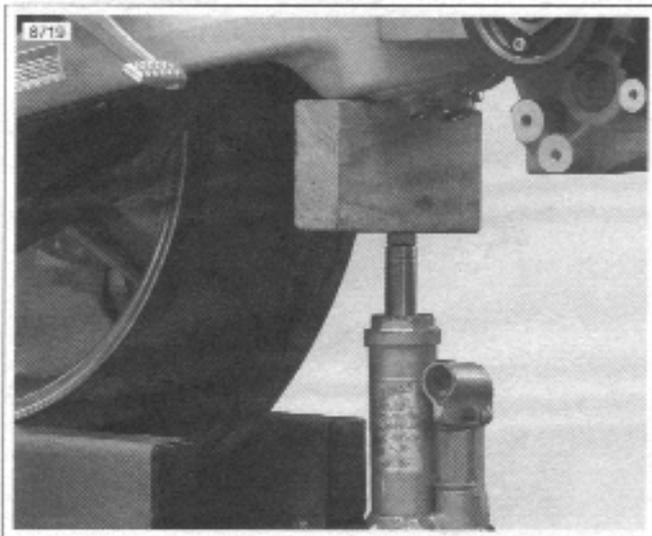

Figure 3-39. Supporting the Swingarm
1. See Figure 3-39. Install bottle jack and wooden block under swingarm/oil tank to the rear of the oil line fittings.